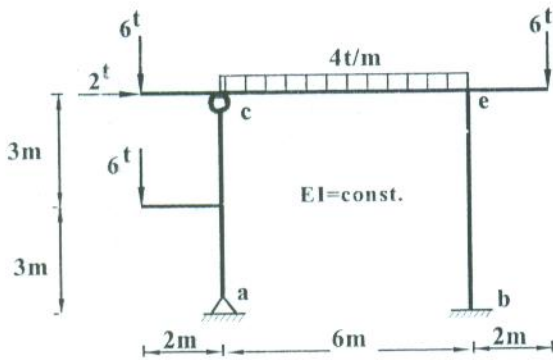

Fig. 2
c. Fig. 2 shows a critical section of a beam designed to resist the following straining actions, $M_u = 140kN.m$, $Q_u = 450kN$ and $M_{tu} = ?$. It is required to carry out the following: